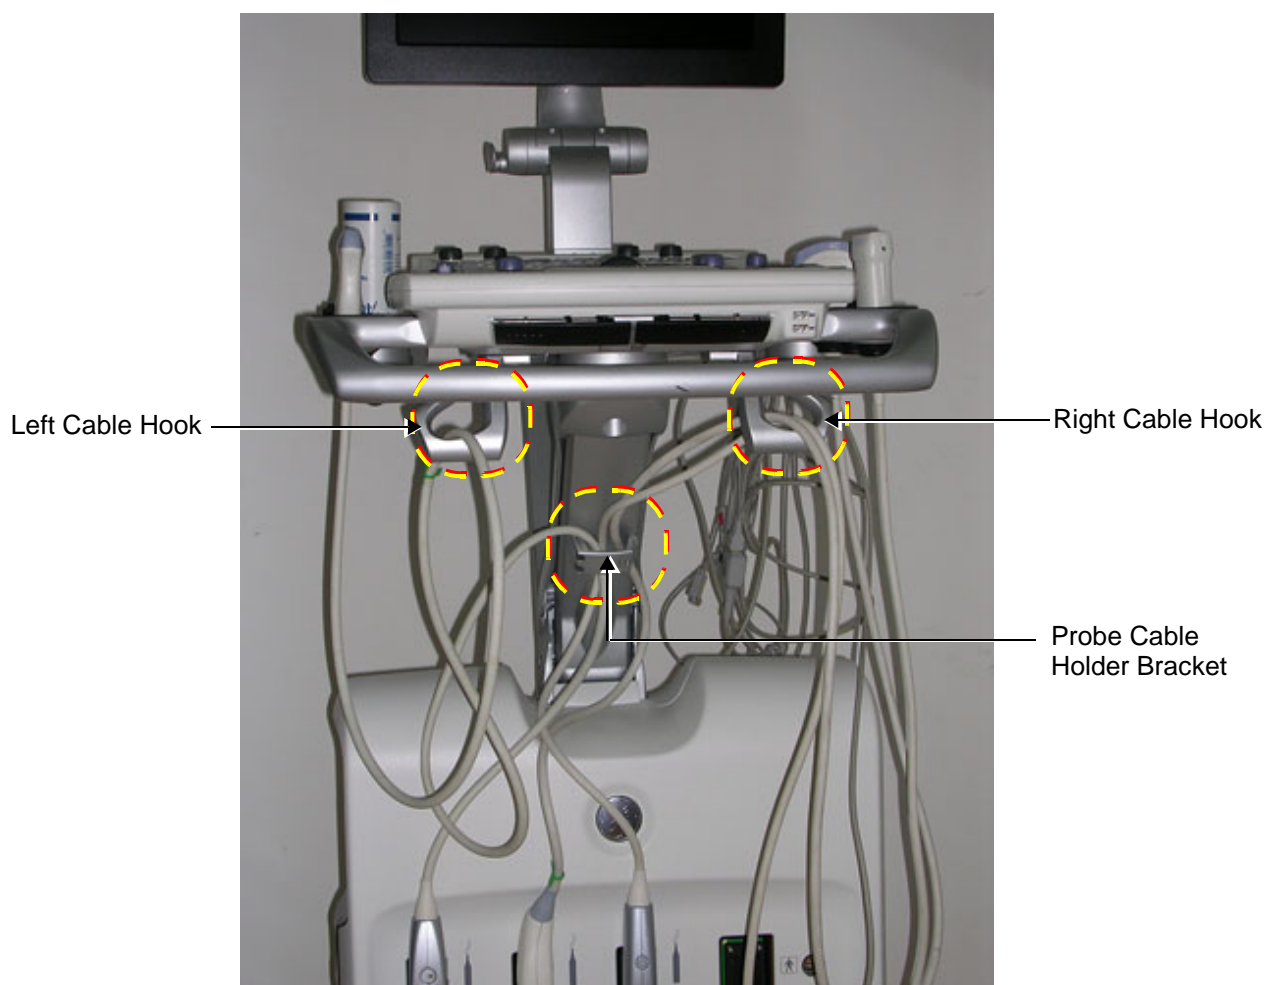

Figure 8-272 Probe Cables Routed Correctly through Probe Cable Holder Bracket and Cable Hooks
When routing the probe cables, it is important to lead the cables upwards from the system's connecting ports as shown in Figure 8-272. Always ensure that the cables do not drag on the floor and are adequately secured by the Probe Cable Holder bracket and *Left* and *Right* Cable Hooks.
- 1.) Lead the right probe cables upwards and thread them via the left and right cable holders as shown in Figure 8-272.
- 3.) Lead the cables via the right cable hook (Figure 8-272) and make one or two loops to shorten the cable.